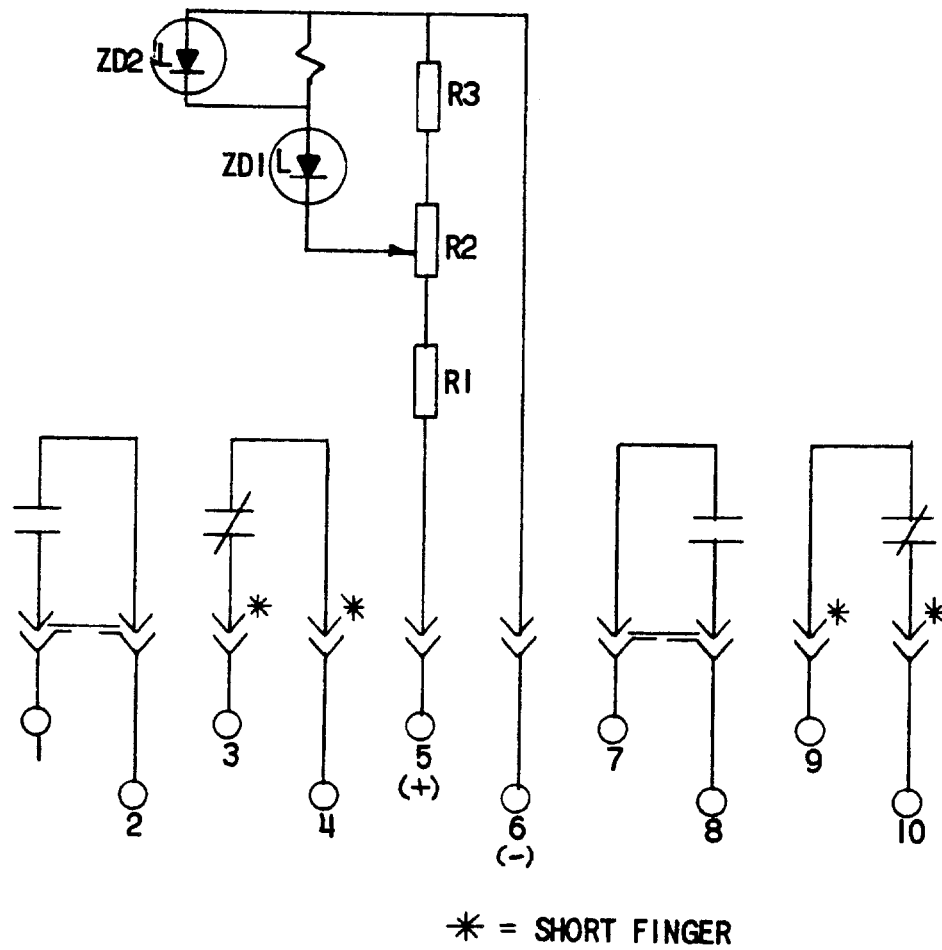

FIG 1 (0358A1440-1) INTERNAL CONNECTIONS DIAGRAM FOR NGV99AS RELAY
2. The internal connections are shown in figure 1 of this supplement. The relay has an additional zener diode (ZD2) in parallel with the operating coil used to limit the maximum coil voltage and allow an increased continuous rating.